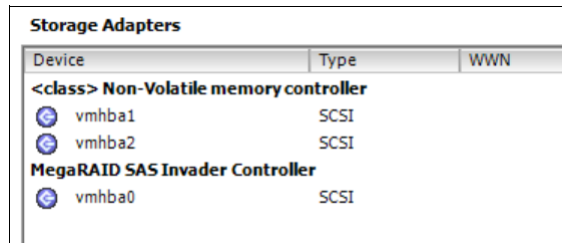

Figure 5-60 Recognized NVMe SSDs in Storage Adapters list
- To confirm that the installed NVMe SSDs are recognized by ESXi server after restart, connect to the ESXi server by using vSphere Client, go to the Configuration tab, choose **Storage Adapters** from the Hardware section. You should see one or more NVMe controllers in the Storage Adapters list, as shown in Figure 5-60.